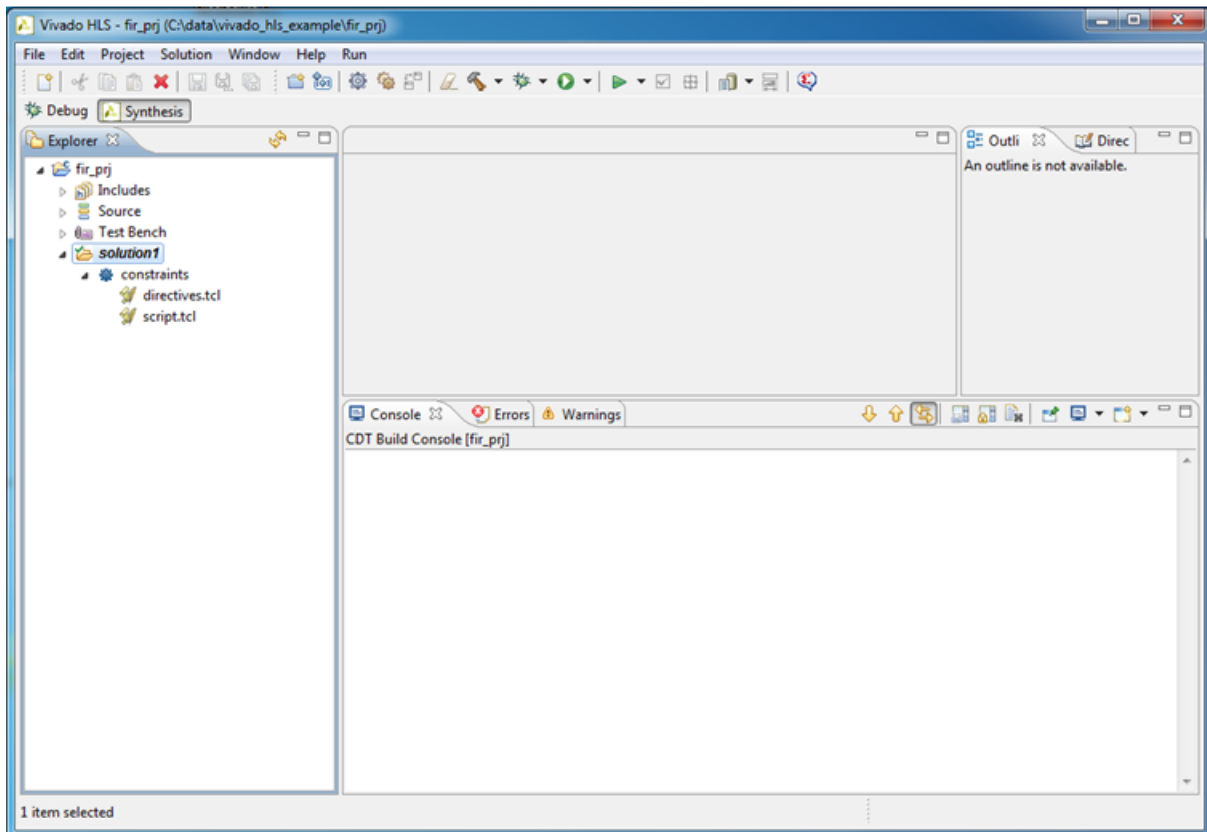

Figure 3-7: Vivado HLS after Project Creation
8. Set the part to **xc7k420tffg1156-1** and click **OK**(Figure 3-7).